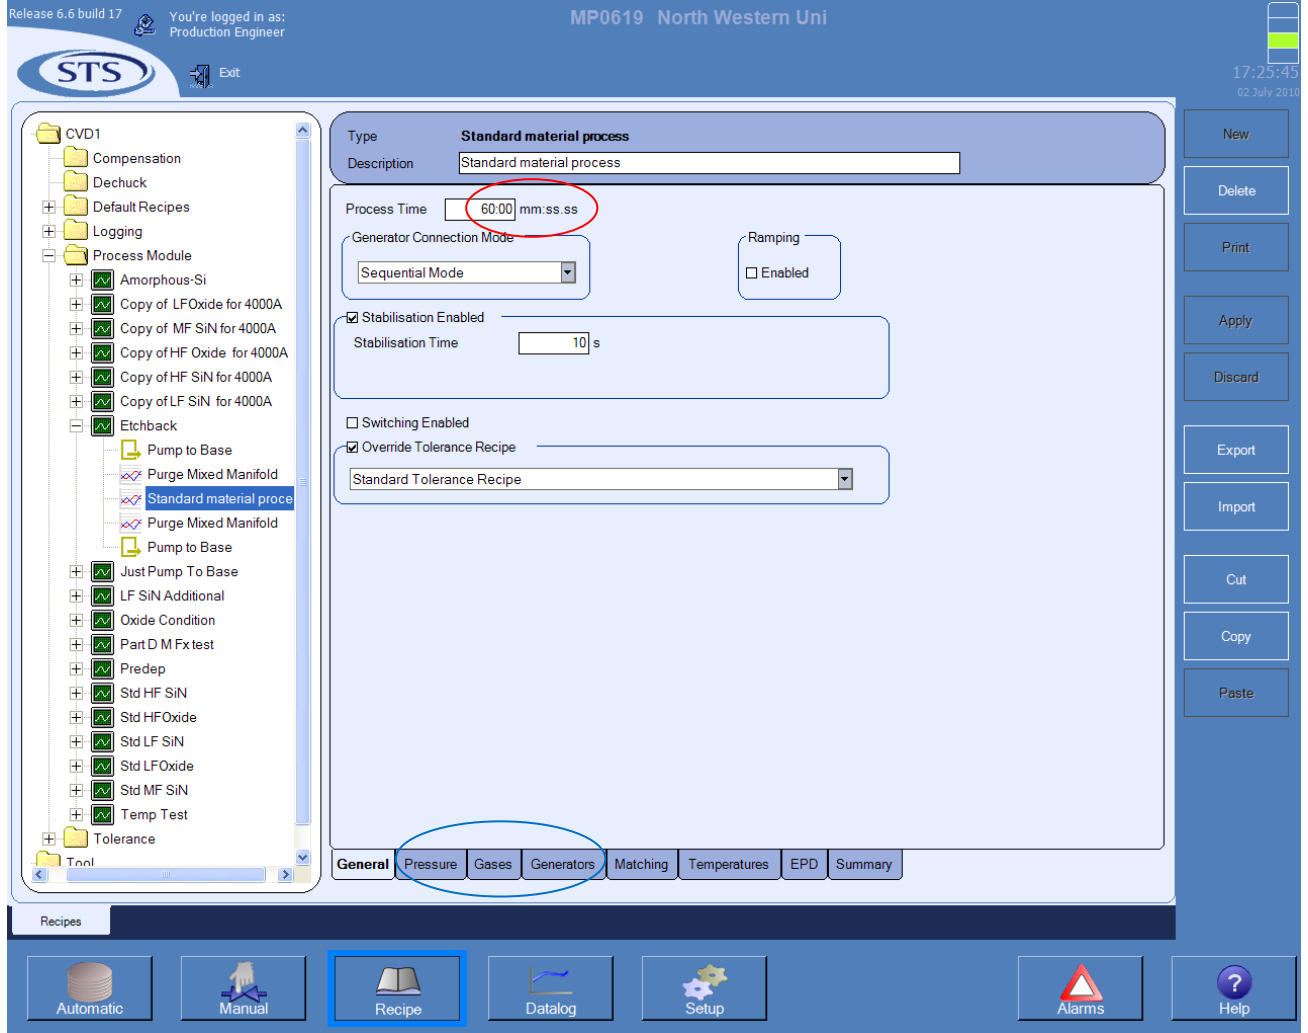

Figure 7: Recipe editing II.
- Clicking on Standard Material Process will open the screen shown in Figure 7. Here, the only thing that you want to change is process time (circled in red, Figure 7).